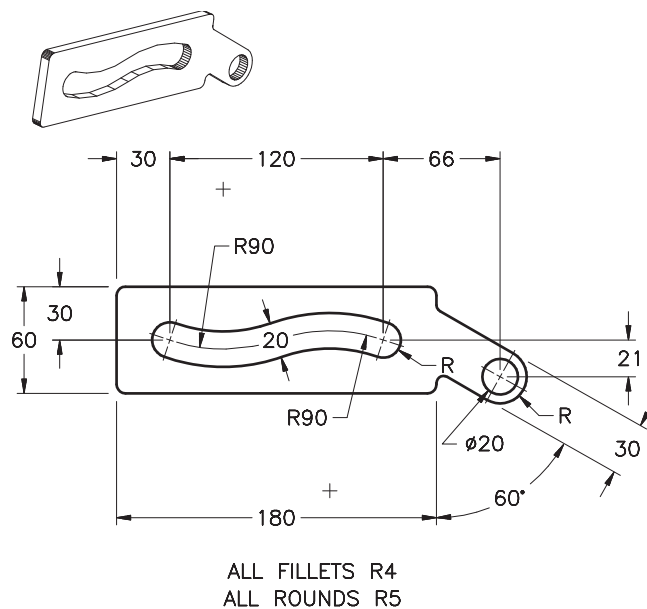

Fig. 29-3
2. Draw and dimension the front view of the oscillating follower shown in Fig. 29-3 on page 402. Use the drawing settings shown below. Draw the top and right-side views, assuming the follower to have a thickness of 8. This is a metric drawing.